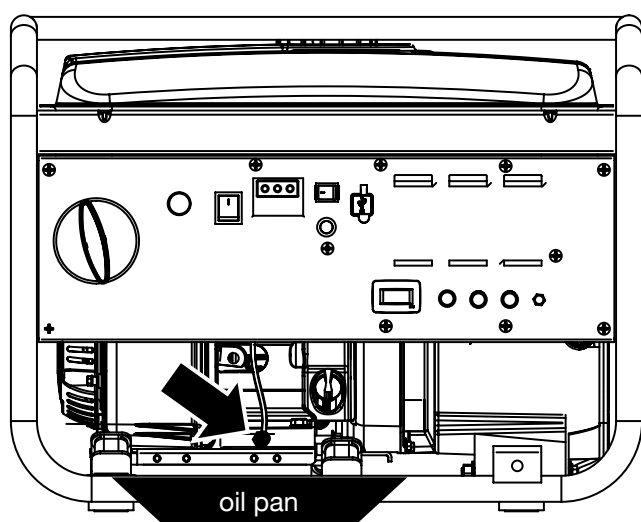

Figure 12: Oil drain plug
3. Place oil pan (or suitable container) under the oil drain plug (see Figure 12).
5. Remove the oil drain plug (see Figure 12). Once removed, place the oil fill plug/dipstick on a clean surface.